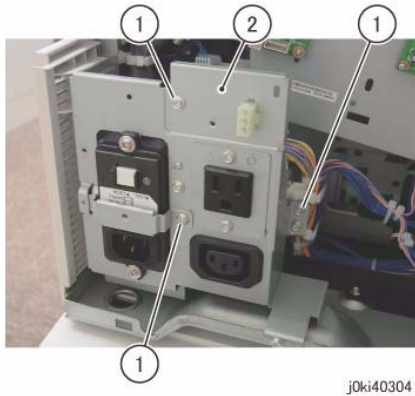

Figure 4 Slide the Bracket
11. Slide the Bracket. (Figure 4)